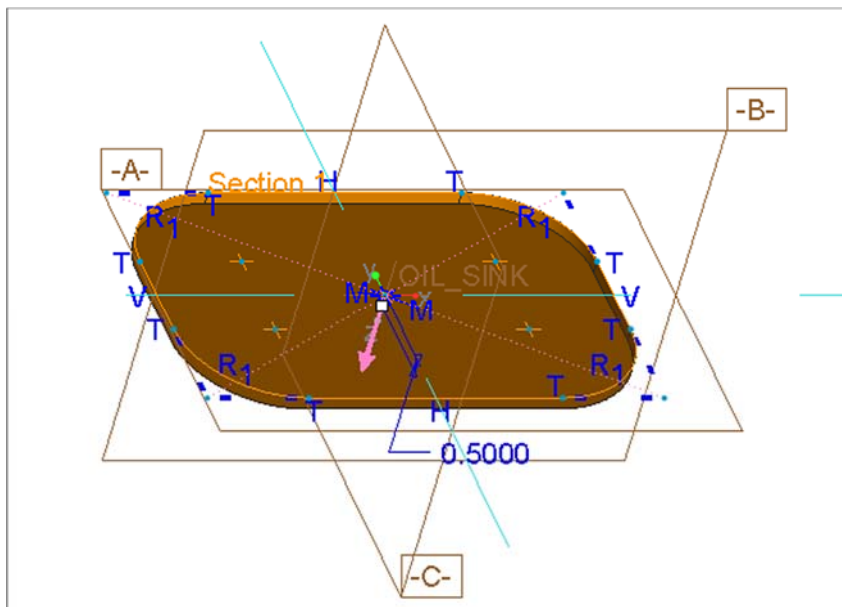

**Figure 17.6** Set Datums and Renamed Coordinate System
**Set Datum**  and **Rename** the default datum planes and coordinate system (Fig. 17.6):